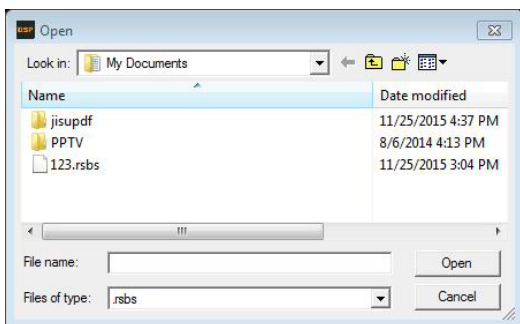

Figure 3.4.6
Step 2: Click "Load" after entry window will pop open file dialog box (Figure 3.4.6).